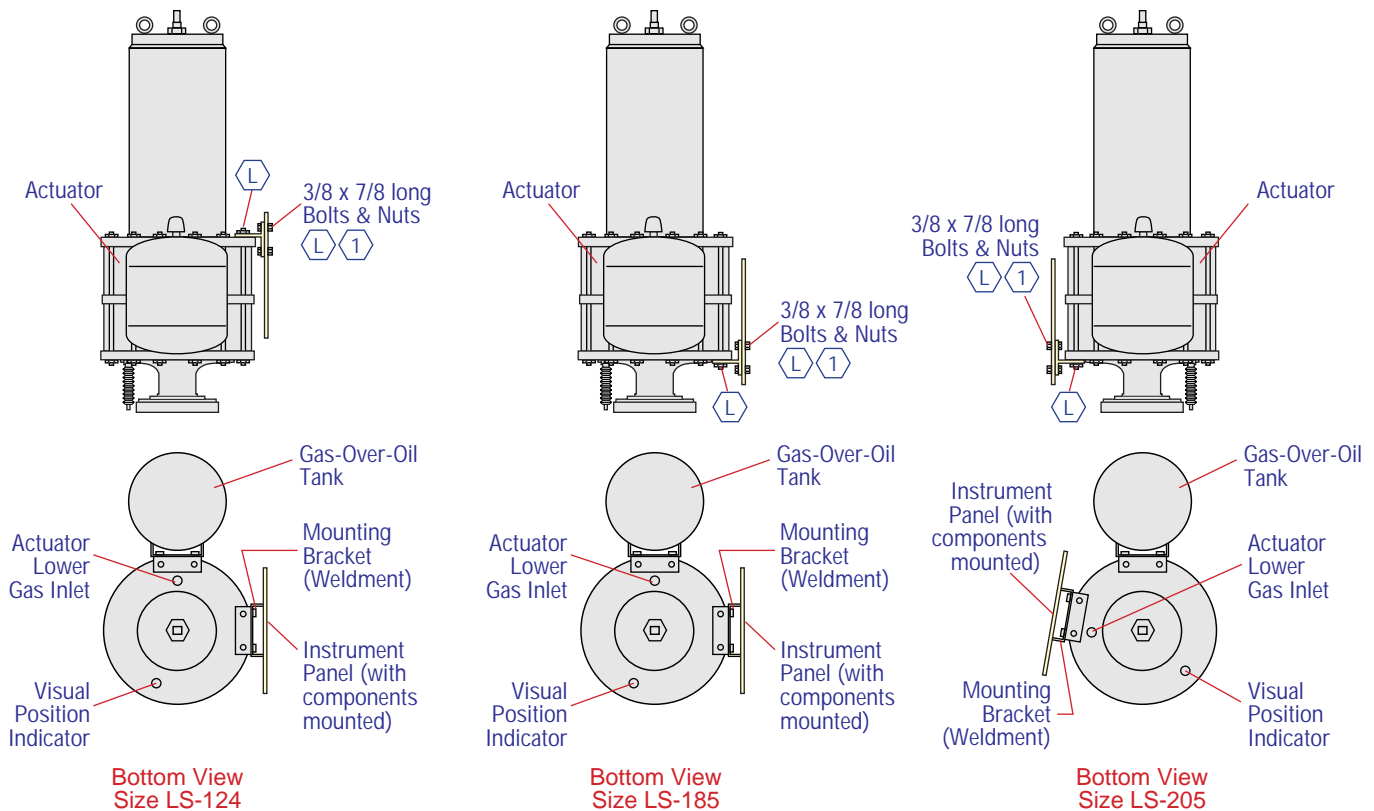

FIGURE 56
Generally all instrumentation packages mounted to Orbit "LS" series cylinder actuators with three (3) or more components are panel mounted. Figure 56 below shows how to remove or install an instrument panel on the various size actuators. The instrument panel is removed or installed as a unit with all the components mounted. Notice the standard orientation for the instrument panel in relation to the actuator gas-over-oil tank and lower gas (air) inlet. (Actuator is in the vertical and upright position).